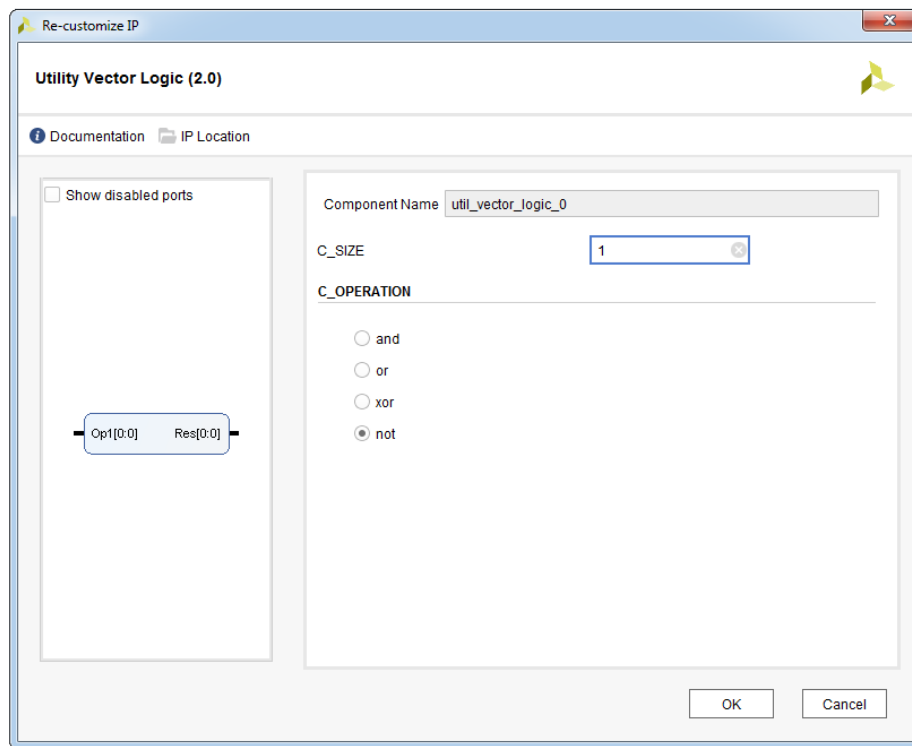

Figure 3.7: Utility Vector Logic (2.0) re-customization IP dialog box
- set the **C_SIZE** to be **1**, see Figure 3.7, and